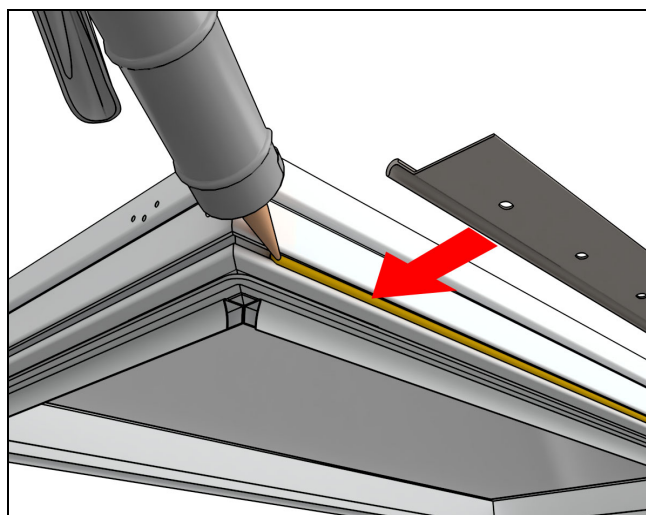

Figure 8
6. On Skylight units only, apply sealant to mounting flange kerf on all four sides of the product prior to installing the mounting flange. See Figure 8.